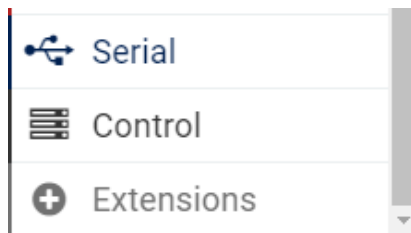
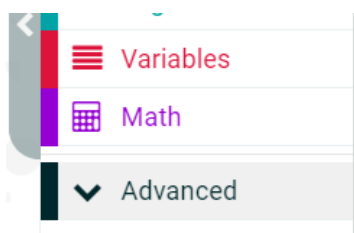

Figure 19
Figure 20
1. Open www.makecode.microbit.org, click on 'New Project', then complete the Create a Project box. Next click on Extensions (Figure 19) under Advanced (Figure 20).